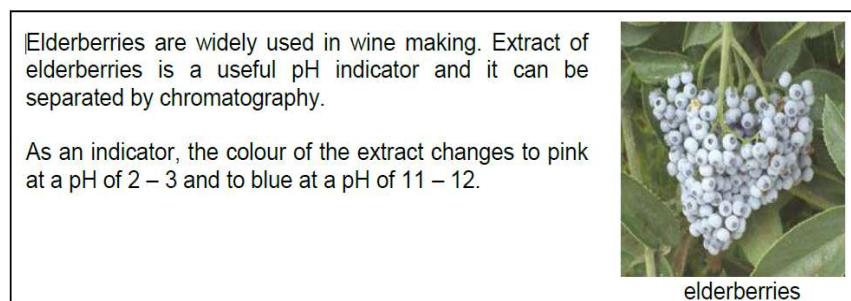

Fig. 3.1
- 3 Fig 3.1 shows an article from a textbook about elderberries.